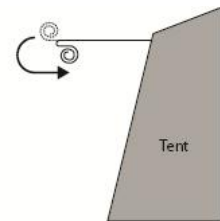

Fig. 2
- Once all guylines and webbing are away neatly, flip the already rolled section to the underside of the canopy roof and continue to roll (fig. 2).
2. Peg the corners of the tent through the metal rings using pin-pegs. It is important to drive the peg into the ground at a 45 degree angle to obtain the best grip. (See Figure 2).